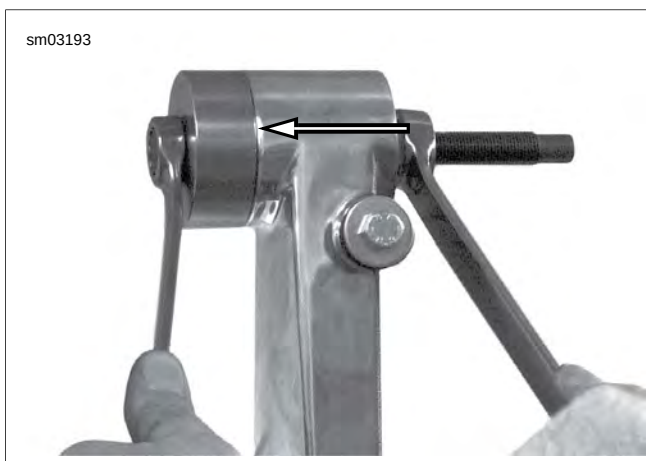

Figure 2-131. Remove Left Side Swingarm Bearing (typical)
1. See Figure 2-131. Position removal cup against inner left arm of rear fork with cupped side facing rear fork.